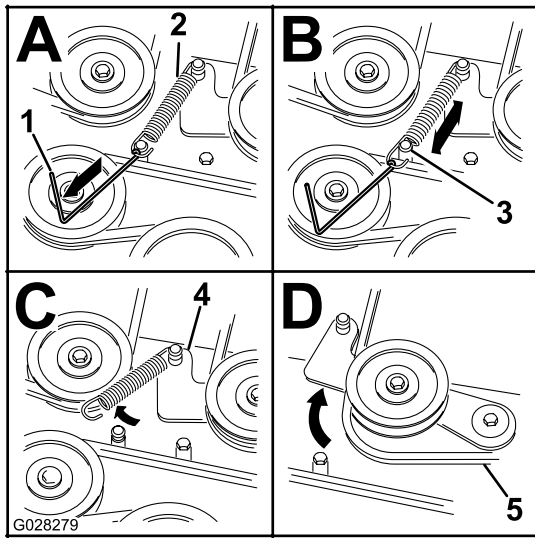

Figure 67
7. Using a spring removal tool, (Toro Part No. 92-5771), remove the idler spring from the deck post to remove tension on the idler pulley (Figure 67).
- Install the new belt around the mower pulleys and the clutch pulley under the engine (Figure 67).
- Using a spring-removal tool, (Toro Part No. 92-5771), install the idler spring over the deck post and placing tension on the idler pulley and mower belt (Figure 67).